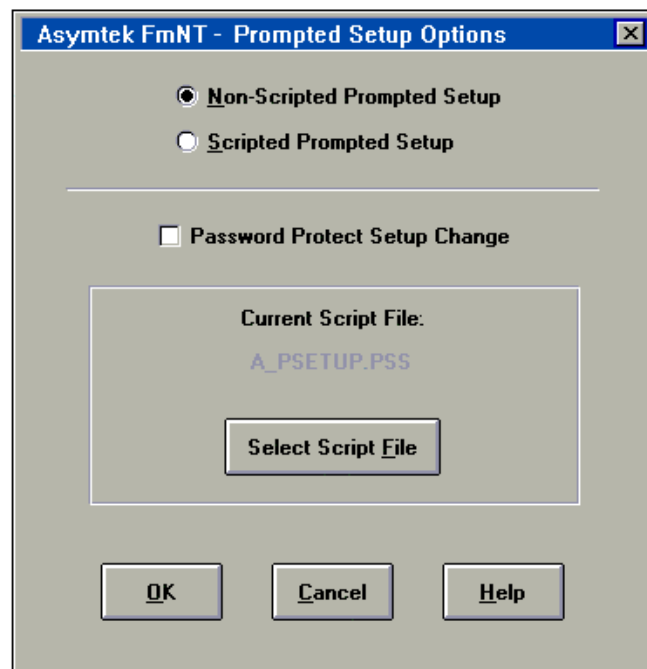

Figure 6-9
- ▶ The Prompted Setup Options dialog box, shown in Figure 6-9, opens.
- ▶ The *Prompted Setup Options* dialog box, shown in Figure 6-9, opens.